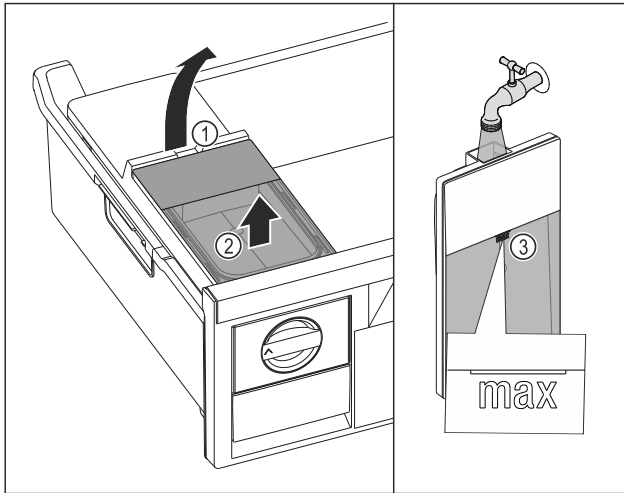

Fig. 112
- Lift the water tank at the recess Fig. 112 (1).
- Remove the water tank by lifting it upwards. Fig. 112 (2)
- Fill the water tank with drinking water up to the mark Fig. 112 (3).